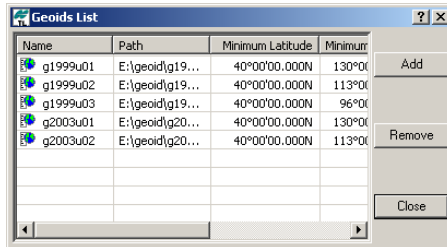

Figure 3-18. Geoids List
- Click **Close** (Figure 3-18).